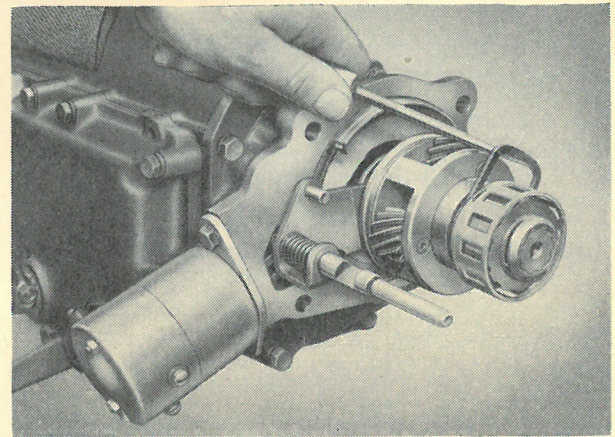

Fig. FF.22.
6. Another snap ring secures the roller clutch hub to the planet carrier, and is removed as shown in Fig. FF.22.